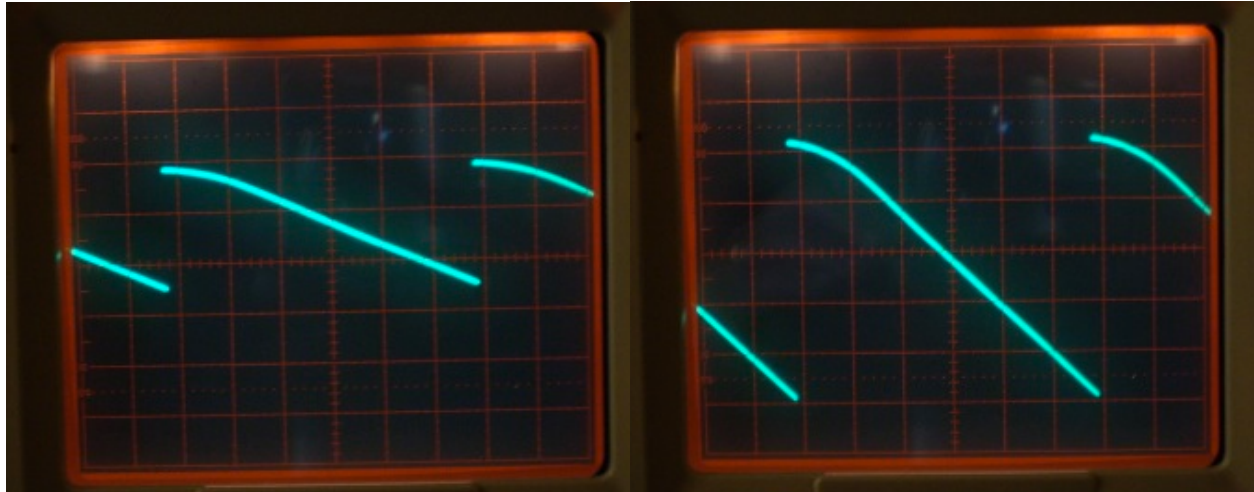
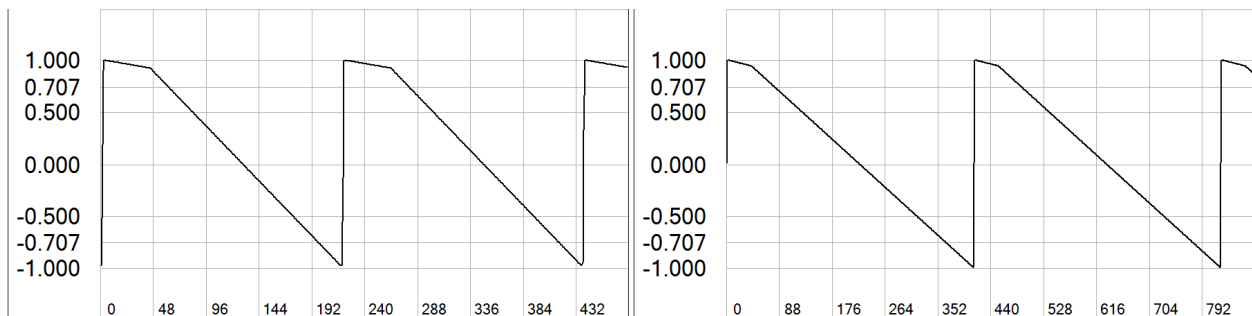

Figure 2: TB-303 Sawtooth at two different amplitudes
Figure 3: two versions of the TB-303 Saw
Let's shoot for this (actual scope shot of the TB-303 saw) in Figure 2:
1. **Create a trivial version of this waveform**, no polyBLEP; for this, I estimated the waveform to look *something* like this two-section down-saw - In RackAFX, I produced what you see in Figure 3. In my version you can adjust the slope of the smashed part as well as the duration of it to get a range of clipped down-saw waveforms. I expect your versions to be better than this, with the more curved appearance in Figure 2. You can start with this approach (piecewise linear) and then go from there. Remember, there will be multiple ways to approach and solve this problem.